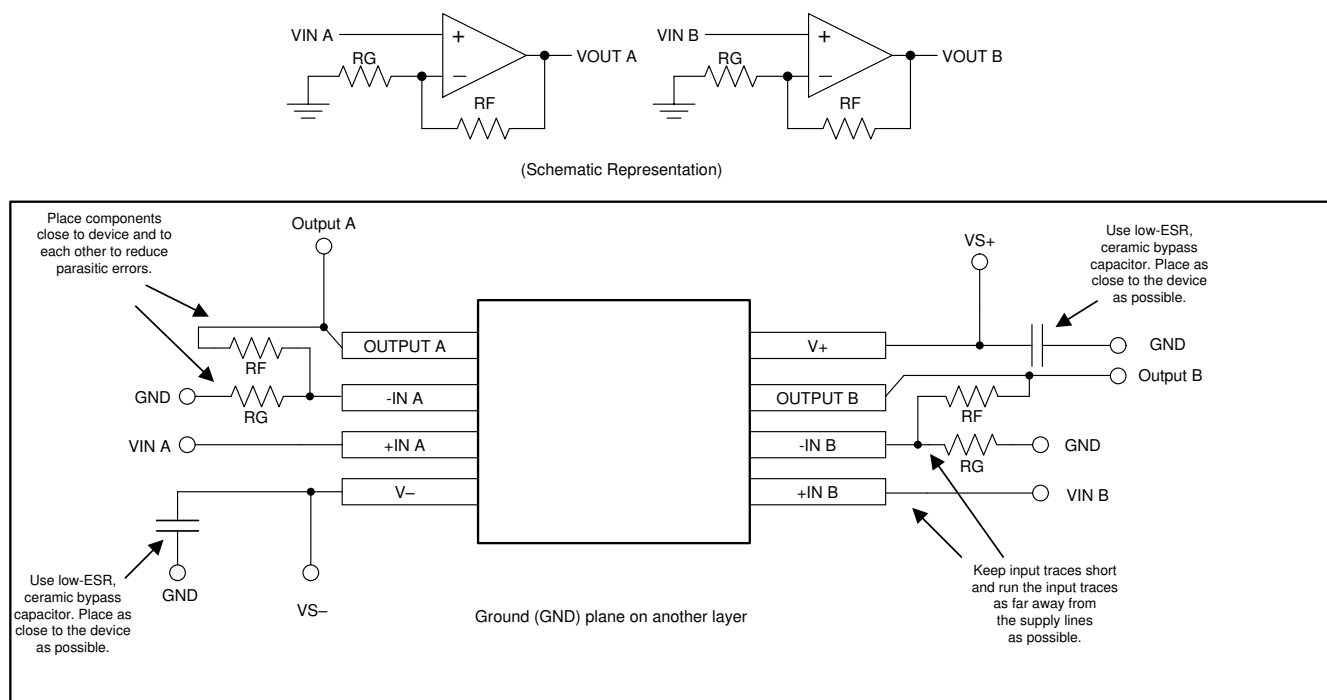

图 8-8. Operational Amplifier Board Layout for Noninverting Configuration
- Place the external components as close to the device as possible. As shown in 图 8-8, keeping R_F and R_G close to the inverting input minimizes parasitic capacitance.